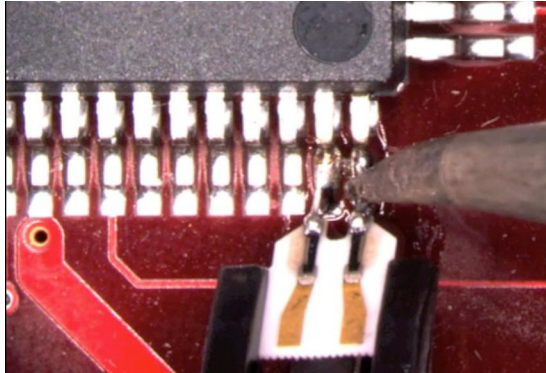

Figure 29 Soldering the ZIF Tip
- 5 Position the ZIF tip with the gold traces facing up as shown in Figure 29 on page 50 and carefully re-flow the solder. This orients the tip so that it will properly mate with the probe head.